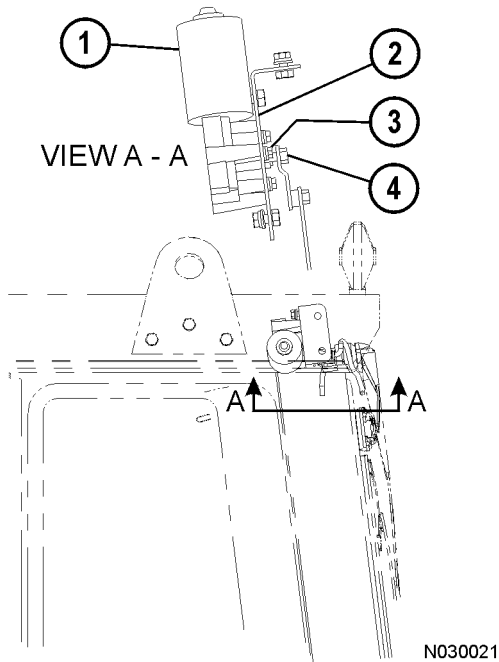

FIGURE 3-1. WINDSHIELD WIPER REMOVAL/INSTALLATION
2. Disconnect the wire harness from the wiper motor. Hold the wiper linkage stationary and remove nut (4, Figure 3-1). Disconnect the wiper linkage from the motor.
3. Remove three cap screws (3) and the washers attaching the motor to plate (2). Remove wiper motor (1).
1. Place wiper motor (1, Figure 3-1) onto plate (2).
2. Install three cap screws (3) and the washers. Tighten the cap screws to **8-9 N·m (71-79 in. lbs)**.
3. Align the motor output shaft with the wiper linkage. Hold the linkage stationary and install nut (4). Tighten the nut to **22-24 N·m (16-18 ft lbs)**.